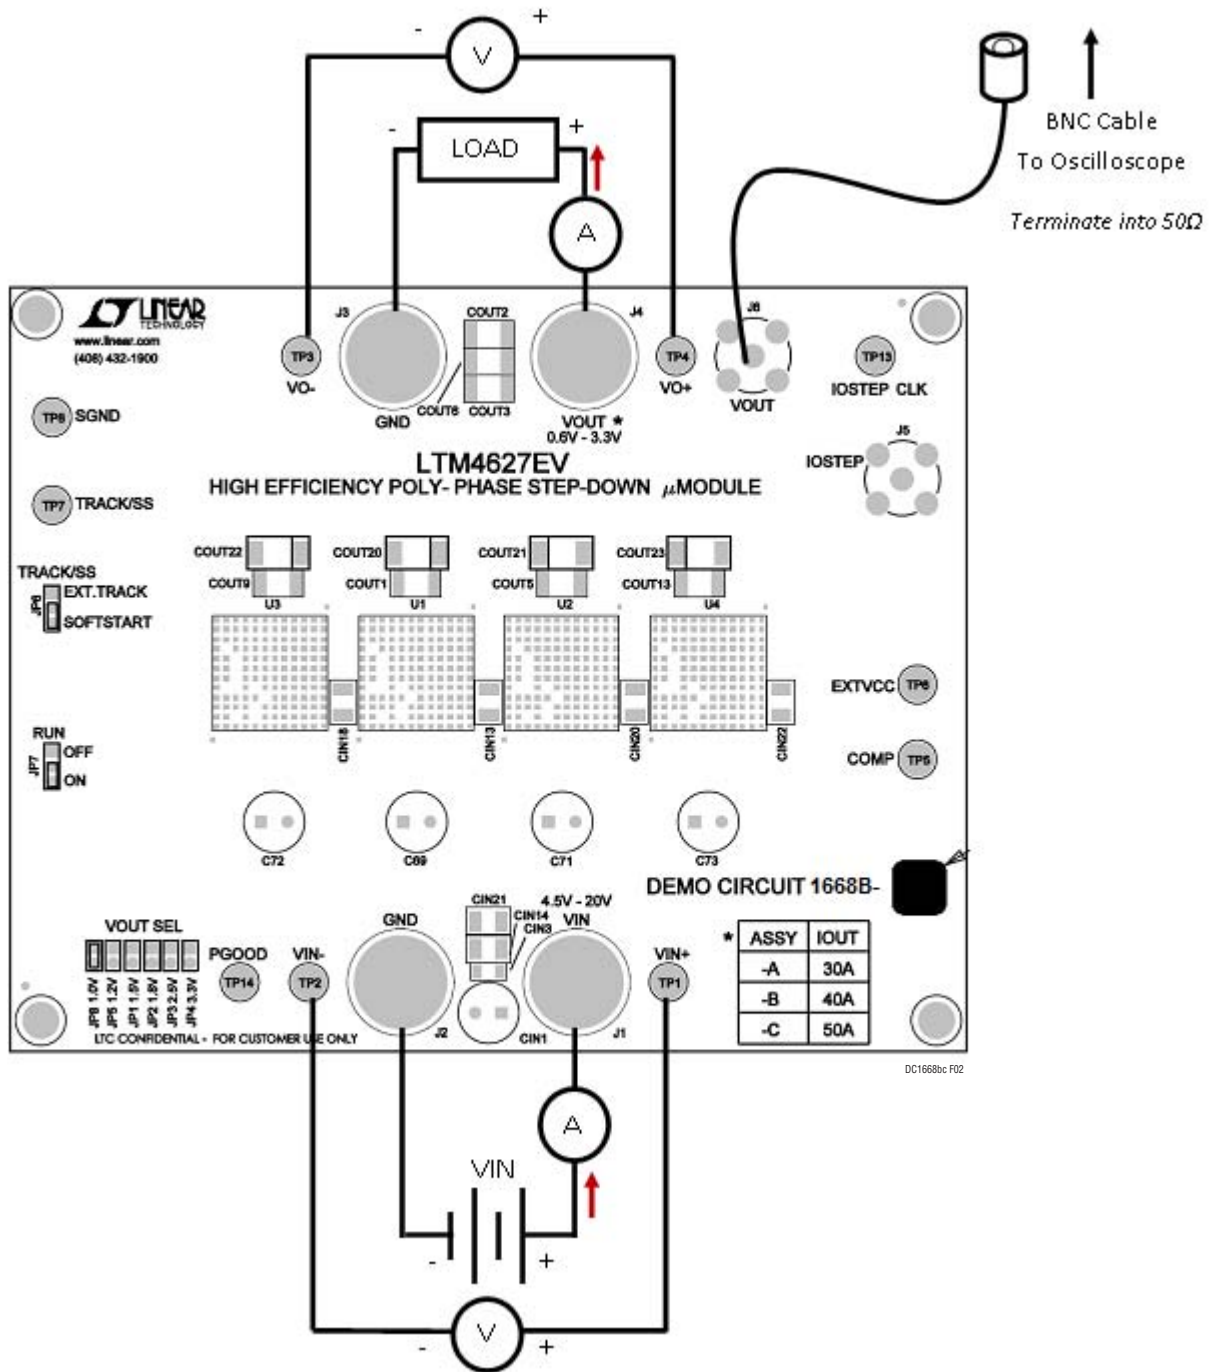

Figure 2. Test Setup of DC1668B (All Versions)
Demonstration circuit 1668B-C is easy to set up to evaluate the performance of paralleled LTM4627 modules. Please refer to Figure 2 for proper measurement equipment setup and follow the procedure below:
1. With power off, connect the input power supply, load, meters, and  $V_{OUT}$  BNC cable as shown in Figure 2. Preset the load to 0A and  $V_{IN}$  supply to be 0V. Place jumpers in the following positions for a typical 1.8V $_{OUT}$  application: